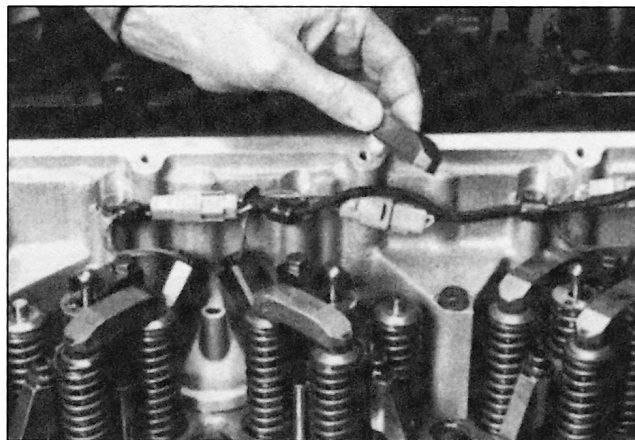

FIG. 3
3. Remove the Cummins guideless **exhaust** valve crosshead from cylinders 1, 3 and 5 (see Fig. 3).